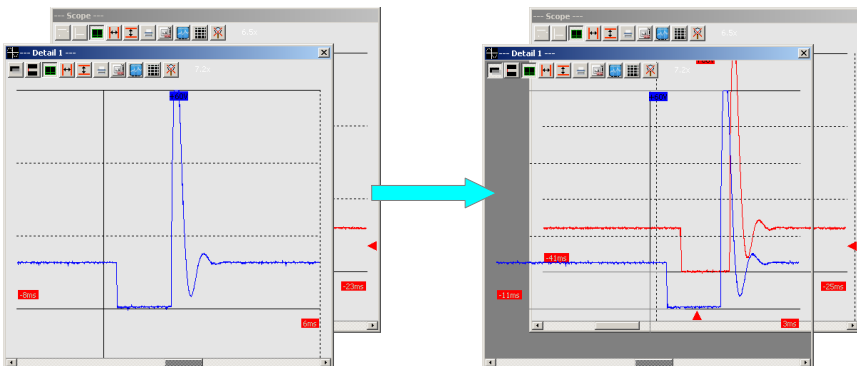

Figure 7.14
1. *Transparency ON/OFF* : If there are more waveforms displayed in several windows, we can make one of the windows transparent by clicking on this icon. Then we can move it around the screen and compare it to other waveforms. This icon is active in Detail window type only. On Figure 7.14 you can see two windows with transparency turned off on the left and on the right these two windows with transparency turned on.